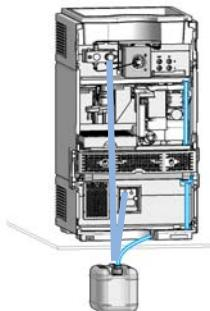

Figure 5 Leak and waste connections (example shows instrument with VWD)
- 9 Connect the waste tube with the fitting attached (part of Accessory Kit) to the flow cell outlet and the other end to an appropriate solvent waste container (see Figure 5 on page 41).
- 10 Attach the corrugated waste tube (part of Accessory Kit) to the VWD leak tray outlet adapter and guide it to a proper waste container (see Figure 5 on page 41).
- 13 Verify that the power push button at the front of the module (see Figure 5 on page 41) stands off. Now connect the power cord to the instrument and the power line.